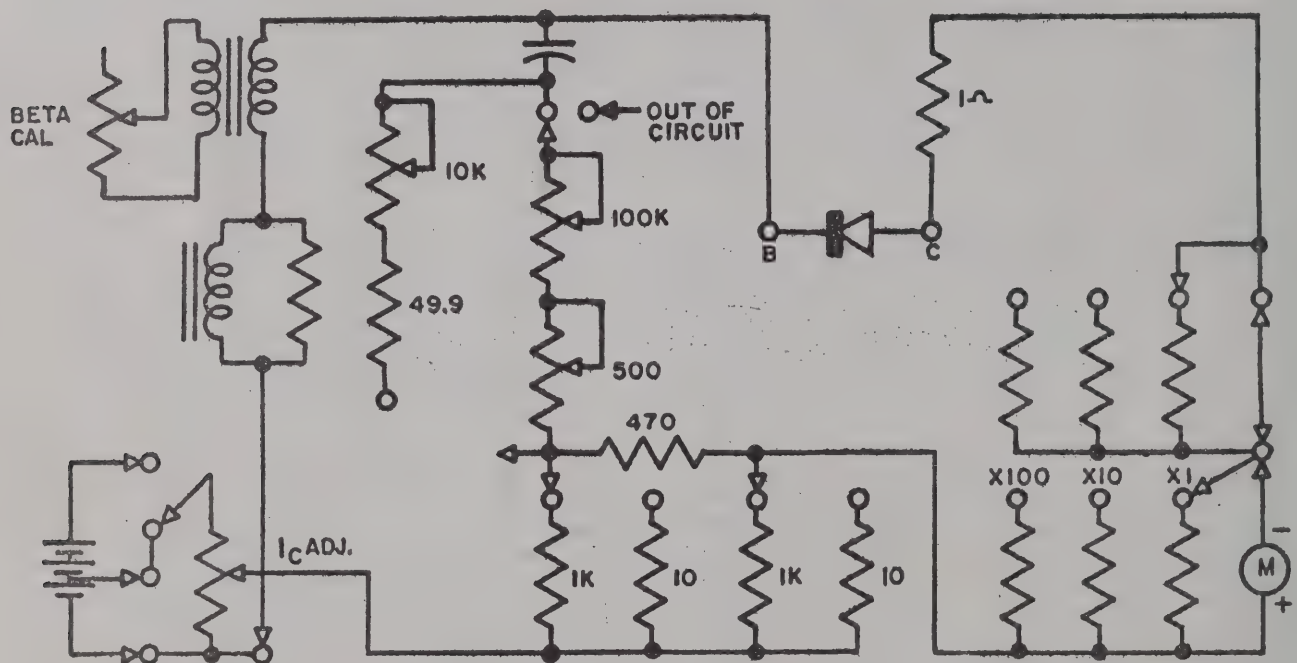

Figure 7. Diode Test Circuit
The circuitry used to perform the Diode Tests is essentially the same as that used for the Transistor tests. The only difference between the circuitry is the functions performed by the Type Selector switch. This switch performs three different functions, the first of which is to reverse the meter in the IC position of the Function Selector switch, so that the total current drawn by the diode and its external circuitry can be measured. Secondly it shorts out the current limiting resistors in the collector circuit, which are used to protect the meter if a shorted transistor is tested and lastly it removes the Collector Voltage supply in the last 5 positions of the Function Selector switch. Figure 7 shows the circuit used for the IC test. It should be compared to Figure 4 and the differences noted.
8. Place the FUNCTION SELECTOR switch to the R_{IN} TRANSISTOR position and turn the Operate Switch to the right. Increase the amplitude of the audio oscillator by varying the Beta Cal potentiometer until the meter reads half scale. Then balance the bridge by varying the R_{IN} potentiometer until a null is indicated on the meter. The value of the diode's dynamic forward resistance can be read from the dial of the R_{IN} potentiometer. Figure 7 shows the circuit diagrams for the diode tests.